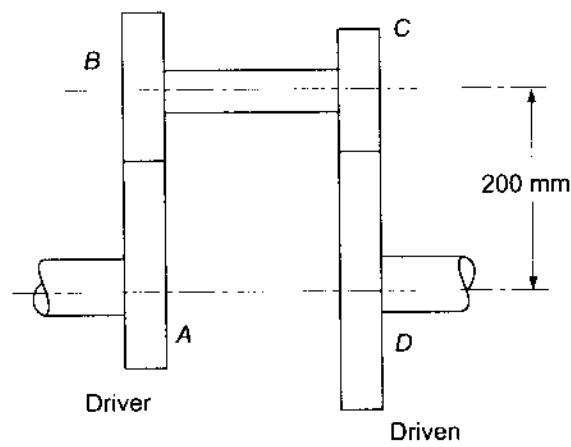

Fig.12.34 Reverted gear train
- 13** The speed ratio of the reverted gear train shown in Fig.12.34 is 12. The module of gears A and B is 3.125 mm and of gears C and D is 2.5 mm. Calculate the suitable number of teeth for the gears. No gear is to have less than 24 teeth.